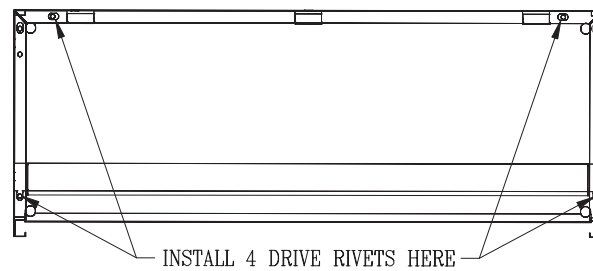

Fig. 3
- 4 Align the small holes in the tier bottom with the corresponding holes in the base and insert **FOUR ONLY** drive rivets (pin side up) in the holes using the hole pattern shown in Fig. 3. Use a hammer to drive rivet pins into the body of the rivets until pins are flush with the
- 1 Remove next add-on tier and hardware kit from shipping box. From bottom of tier insert the two (2) lock bars into the lock bar channels as done previously in step A2. Carefully position tier on top of previous tier. Slide tier towards back of unit so the three INTERLOCKING TABS on the bottom of the tier hook under the rear lip of the tier below.